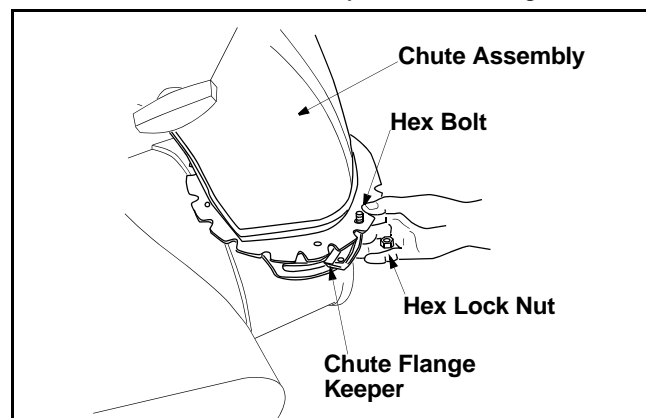

Figure 12
- Place chute flange keepers beneath lip of chute assembly, with the flat side of chute flange keeper facing downward. See Figure 12.